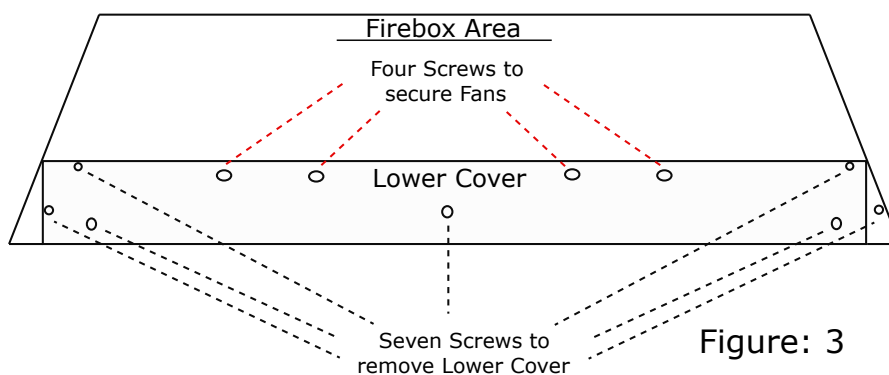

Figure: 3
Step 4: Secure Lower Louver Cover with the seven screws which were removed in Step: 2. (Figure: 3)